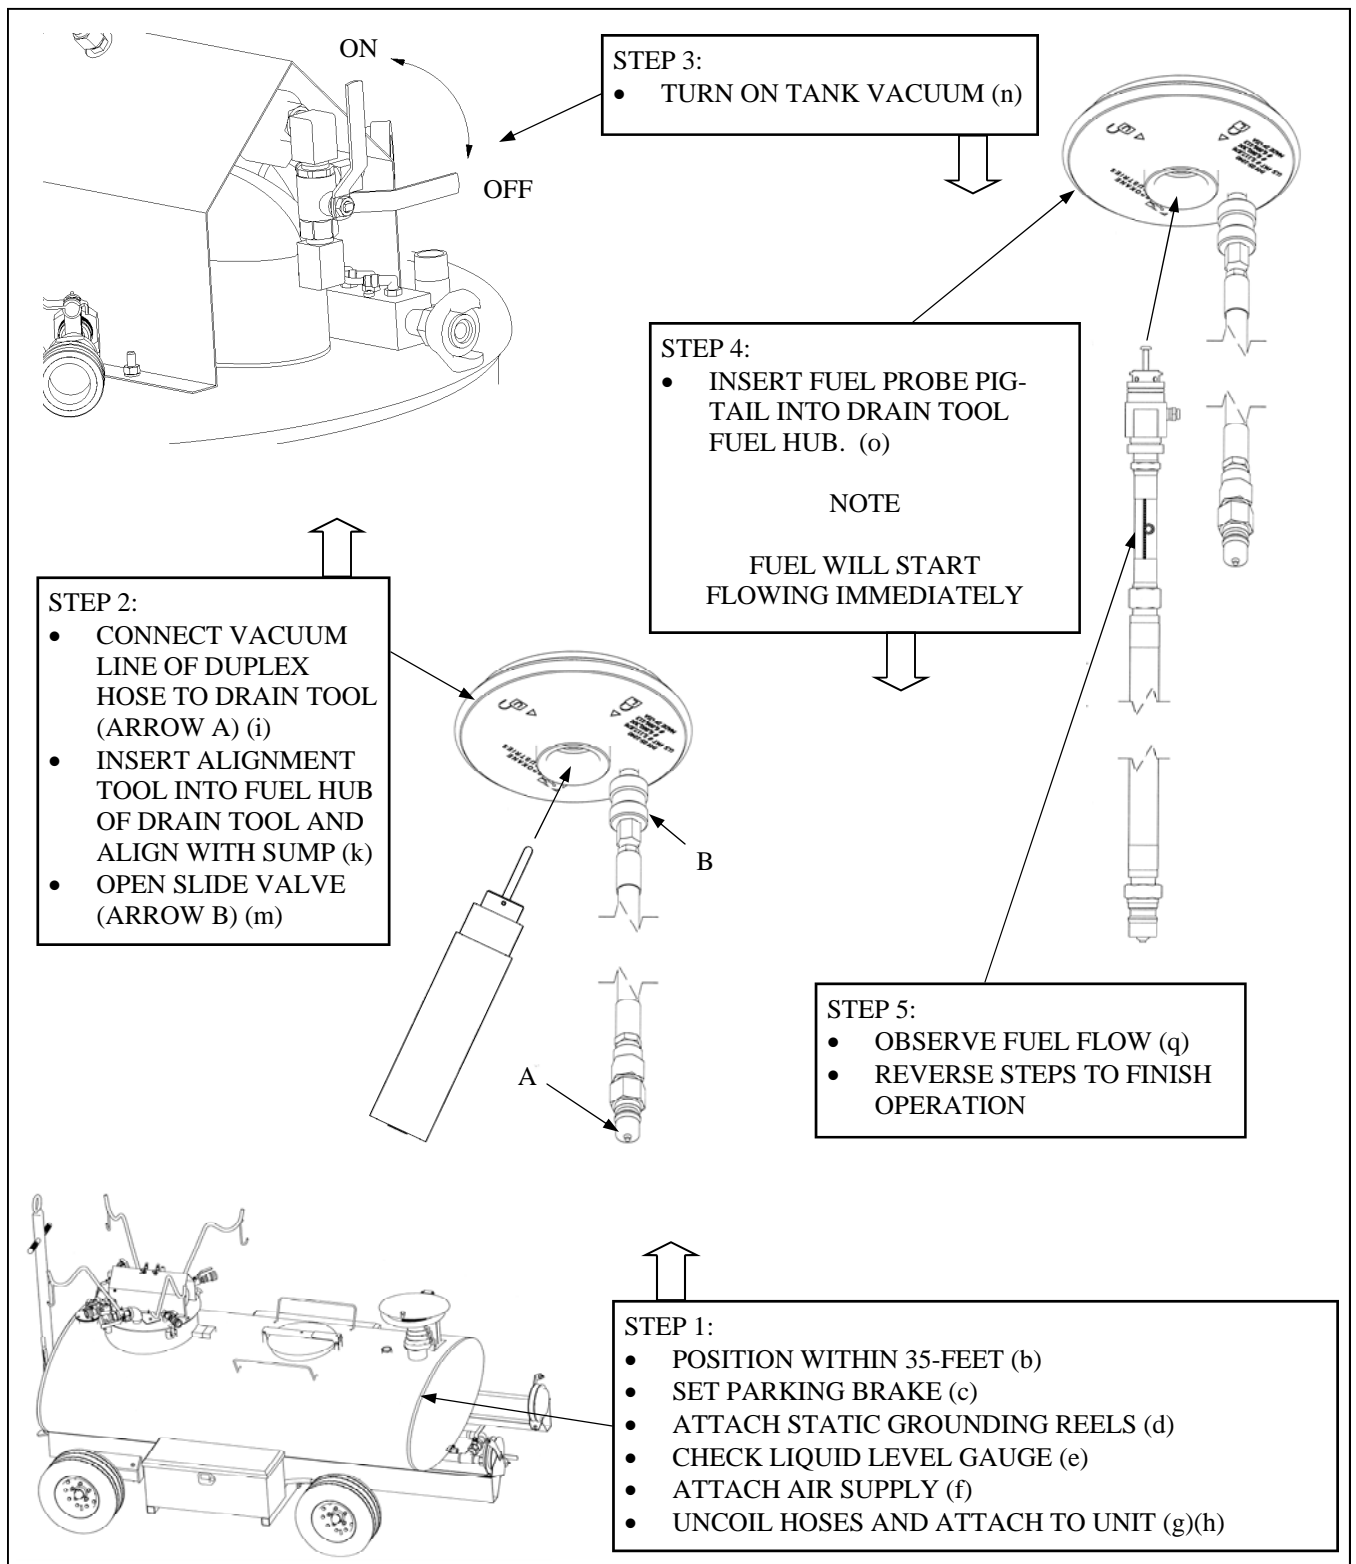

Figure 4-6. Vacuum Draining Steps
- g. Observe Fuel Flow Viewing Window (4). If no, or small flow is present, turn off tank vacuum and go back to step (b) of these instructions, selecting the next longer sized pin. If good fuel flow is present, the correct pin length has been selected. You may wish to make a note of the pin length that operates best.
4.6.3 Vacuum Draining Procedure. The Vacuum Draining procedure can only be performed after the initial set up instructions in Paragraph 4.6.2 have been finished. Aircraft specific draining procedure take precedence over the steps described here. See Figure 4-6 for abridged picto-